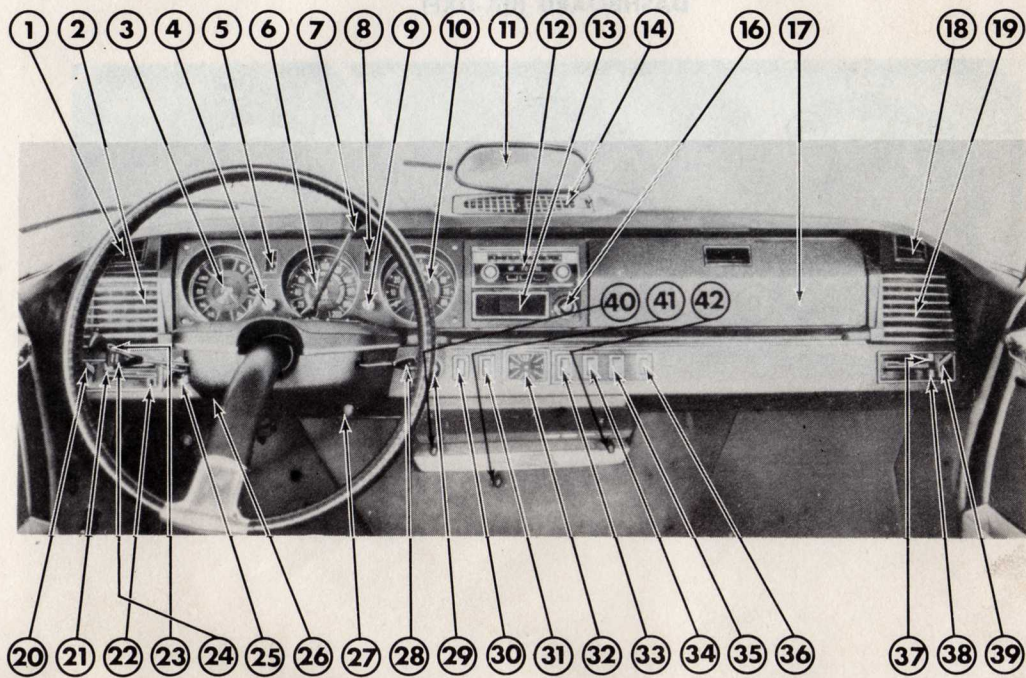
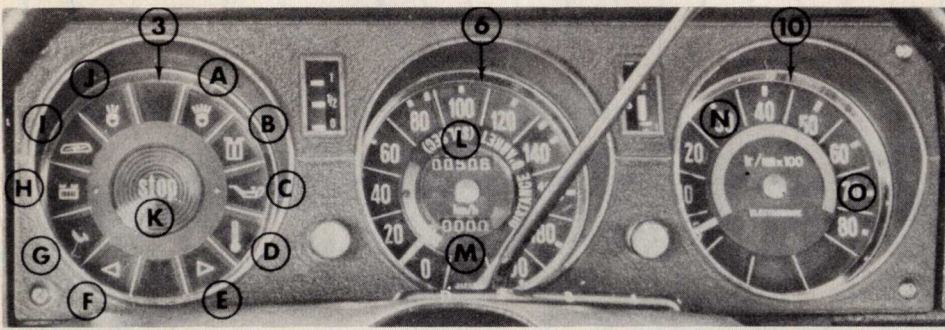
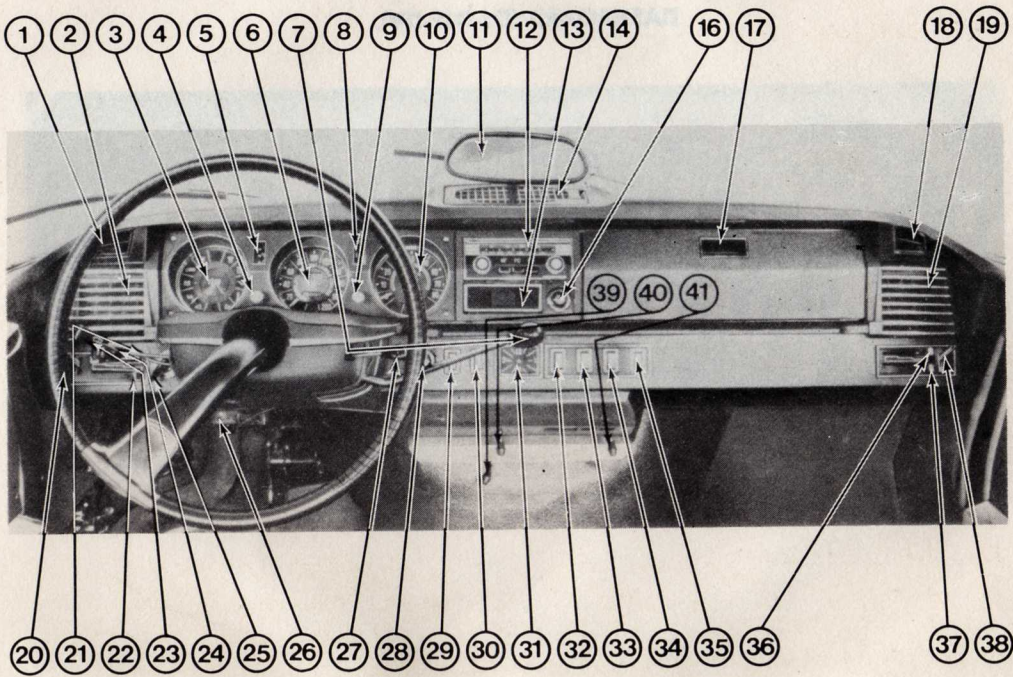
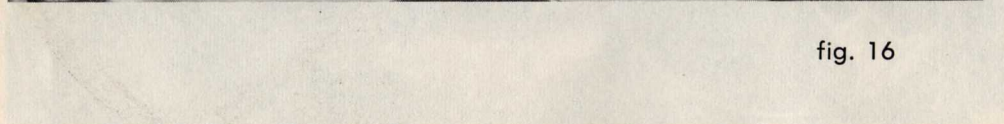

fig. 13
fig. 14
fig. 15
fig. 16
The limits of the range corresponding to 1st, 2nd and 3rd gear are indexed on the speedometer dial by orange reference marks (see 6 Fig. 14-Fig. 16).
If the hydraulic pressure controlling either the front or the rear brake circuits becomes insufficient, the red indicator B of the Central Indicator Dial 3 (Fig. 14-Fig. 16) lights up as well as the red "STOP" indicator K and will remain lit until corrected.
- On DX-DJ-DXF-DJF Models, if the pads of the front disc brakes are worn beyond normal serviceability, the yellow indicator G of the Central Indicator Dial 3 (Fig. 14-Fig. 16) lights up and stays lit until the pads are replaced.
An additional Test Switch 4 (Fig. 13-Fig. 15) enables you to check at any moment the functioning of the red warning indicators B, C, D and K on the Central Indicator Dial.
To avoid any lapse of memory contributing toward grave errors of estimation, the speedometer 6 (fig. 14-fig. 16) is equipped with an indicating dial marked "STOPPING DISTANCE (DRY ROAD) FT." This dial rotates with the speedometer needle. As the speed of the car increases, three numbers—250-500 and 800 become visible successively. These numbers express in feet, the total stopping distance required on a dry road, for that particular speed which the speedometer needle is pointing to.
DASHBOARD (DX-DXF)—fig. 13-fig. 14.
3. Central Indicator Dial (Detail—fig. 14-fig. 16)
6. Speedometer with odometer and trip mileage register (Detail fig. 14.)
10. Electronic Tachometer (detail fig. 14)
To do this, push the lever forward and lock it in this position by pushing the lever up. After the engine has started, **DO NOT FORGET TO RESET THE LEVER 27 (fig. 13) at its initial position before shifting.**
At the SECOND POSITION the innermost headlamps (high beams) are added so that all four headlamps are operating. In addition a blue indicator (A fig. 14-fig. 16) will light on the control indicator panel. Moving the lever away from the steering wheel will now cancel the "high beams" but the "low beams" and other lights will remain on. This is used when passing opposite traffic. At this position, by moving the lever alternately toward and away from the steering wheel, you can flash the headlights signalling preceding traffic that you are about to over-take them.
When this switch is on, both front and both rear directional lights will flash intermittently as well as the indicators **E** and **F**. (fig. 14-fig. 16)
DASHBOARD (DJ-DJF-DV) fig. 15-fig. 16.
3. Central Indicator Dial (see detail, page 40 item 3).
4. Switch for checking the functioning of the red signals on the Central Indicator Dial. (see detail, page 40 item 4).
6. Speedometer with odometer and trip mileage register (detail fig. 16).